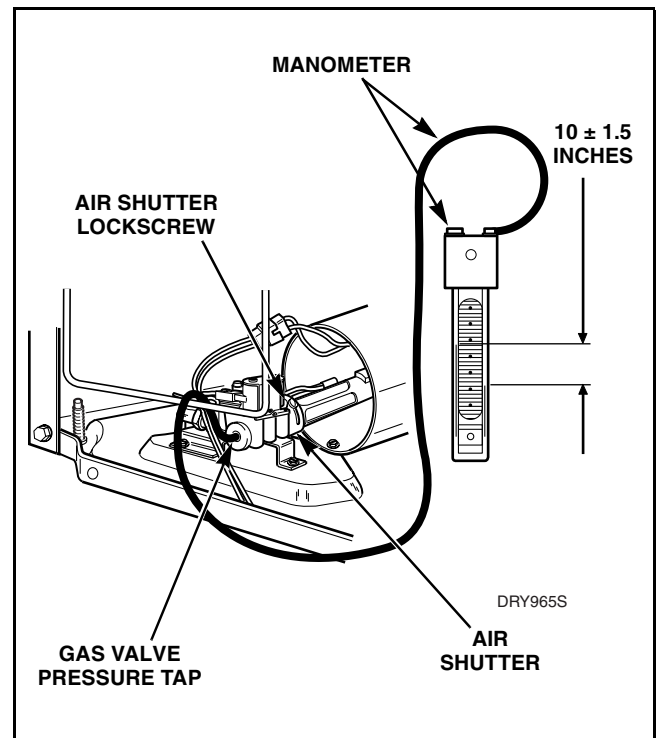

Figure 44
- (2) Connect a “U” tube manometer (or similar pressure gauge) to the pressure tap. Refer to *Figure 44*.
- (1) Loosen air shutter lock screw. Refer to *Figure 44*.
- (2) Turn air shutter to the right or left as necessary to obtain proper flame intensity. Refer to *Figure 44*.
- (3) After air shutter is adjusted for proper flame, tighten air shutter lock screw firmly.